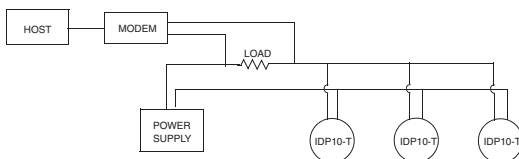

Figure 28. Typical Multidrop Network
Figure 28 shows a typical multidrop network. Do not use this figure as an installation diagram. Contact the HART Communications Foundation, (512) 794-0369, with specific requirements for multidrop applications.